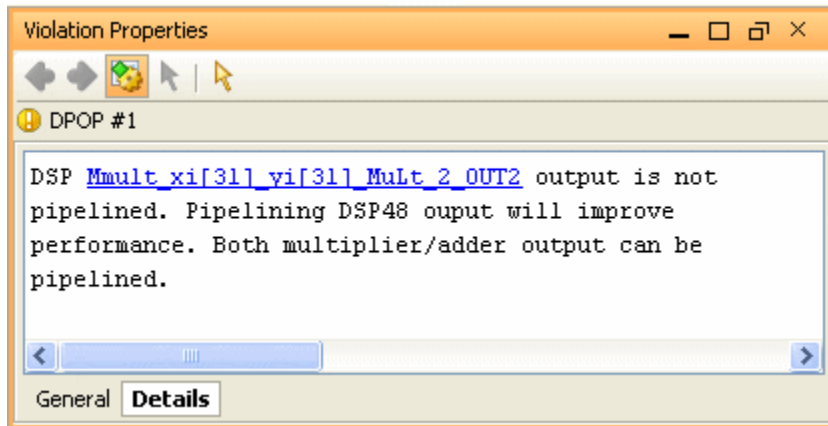

Figure 15: Violations Properties Window
- 4-1-4.** In the Violations Properties view, click `Mmult_xi[31]_yi[31]_MuLt_2_OUT2` (Figure 15).